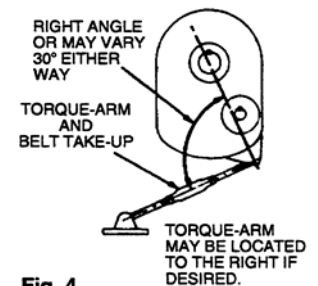

Fig. 4
7. Install torque arm fulcrum on a rigid support so that the torque arm will be approximately at right angles to the center line through the driven shaft and the torque arm anchor screw. (See Fig. 4.) Make sure that there is sufficient take-up in the turn-buckle for belt tension adjustment when using V-belt drive.